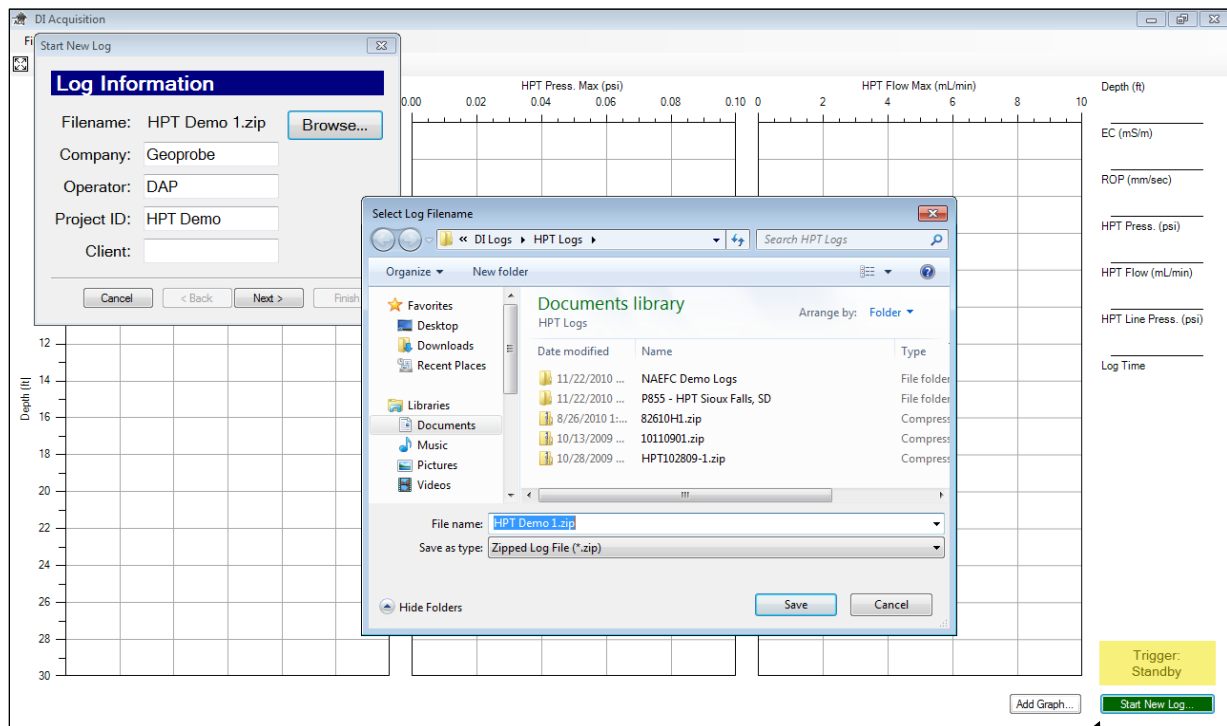

Figure 5.3: DI Acquisition Software – Start New Log Sequence
3. Select “Start New Log”. The software will request log information and have you browse for a storage location and create and save a file name for the log (Fig. 5.3).